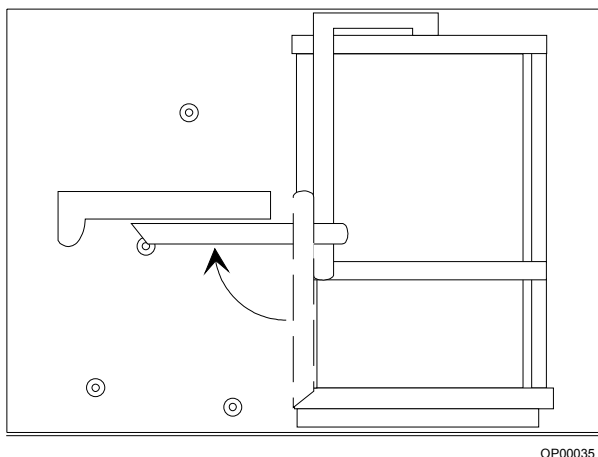

Figure 10-9. Reseating the Breathing System
2. Swing the breathing system locking lever into its lock position. See Figure 10-9.